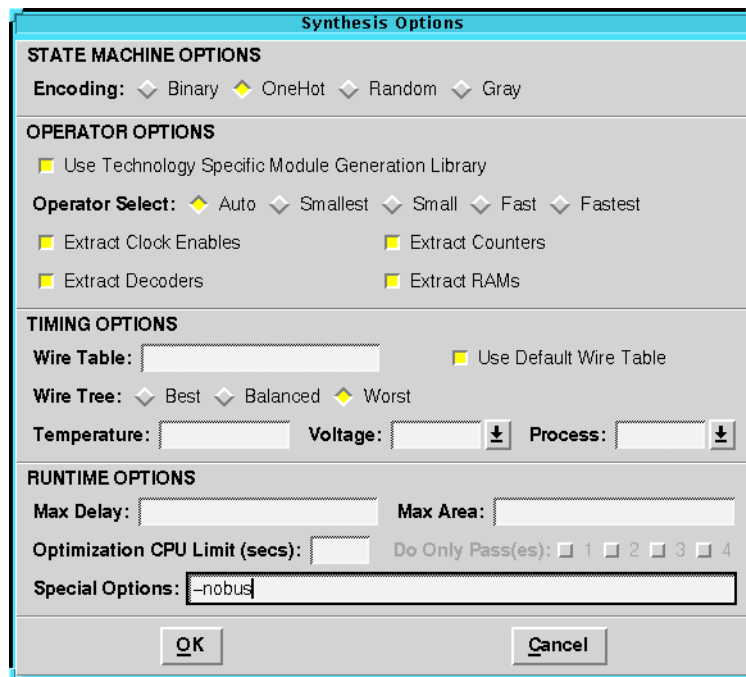

Figure 1-22 Synthesis Options Dialog Box
20. In the Galileo Extreme window, click on the Synthesis Options button to open the Synthesis Options dialog box which is shown in the following figure 1-22.